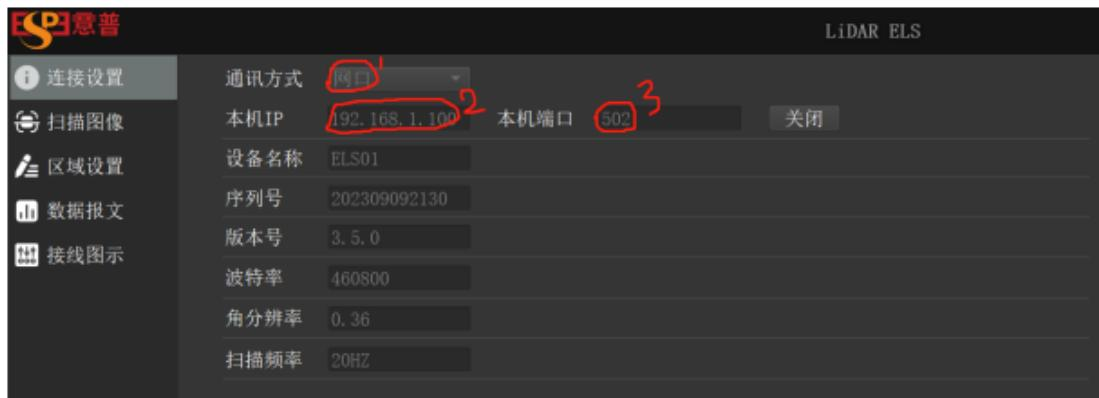

Figure 14: Network port connection setting
3. In the interface in Figure 14, select the network port for the communication mode, set the local IP to 192.168.1.100, and set the local port to 502, then click Open;